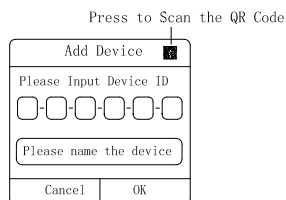

Fig. 1
- a. Add switches: in the switches list, click the icon at the top-right corner, (as shown in Fig. 1).